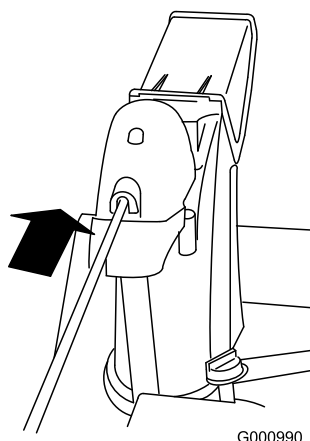

Figure 16
4. Insert the front end of the rod into the opening in the back of the chute-gear cover until it slides into the chute gear (Figure 16).